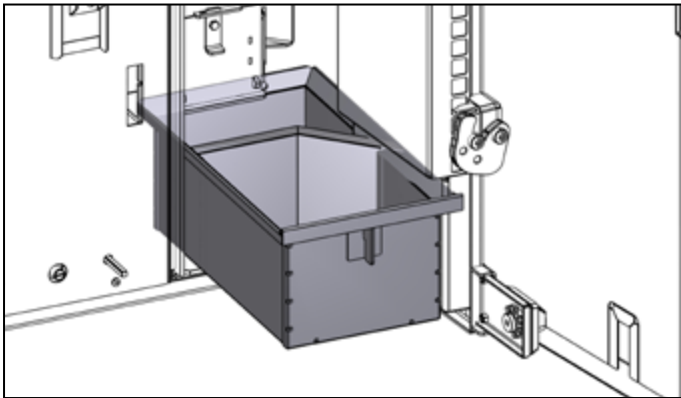

Figure 12-9: Ash pan removal
- Using the multi-purpose tool supplied with the boiler, carefully remove ash pan from combustion chamber. Refer to Figure 12-9.